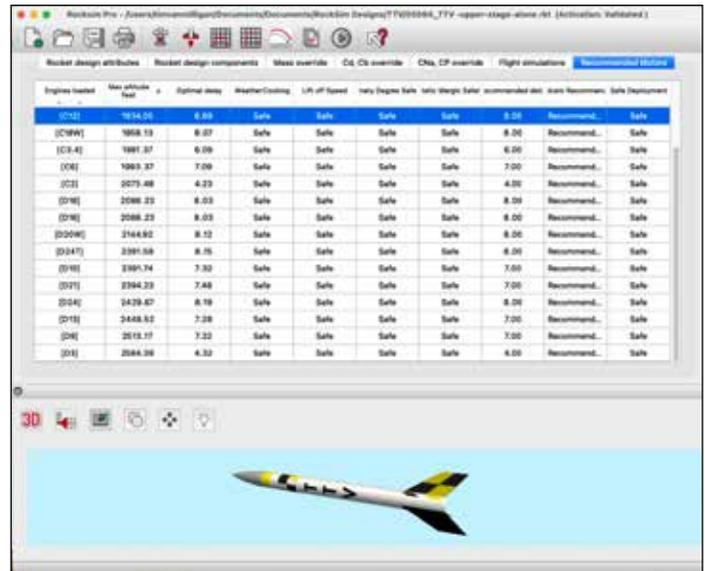

Figure 12 - The final list of motors to choose from for the upper stage. Sort the list by "Max. Altitude"
9. Run the recommend motors for the upper stage by itself from the "Engine Selection" tab (figure 7). When running the list, select "Use My Values" (see figure 11) instead of the default launch conditions. When you're done, you'll get a big list of motors, which you can output (Figure 12).
10. From the list, I'll sort the simulations by maximum altitude (figure 12). I want to see which motor in the upper stage will get